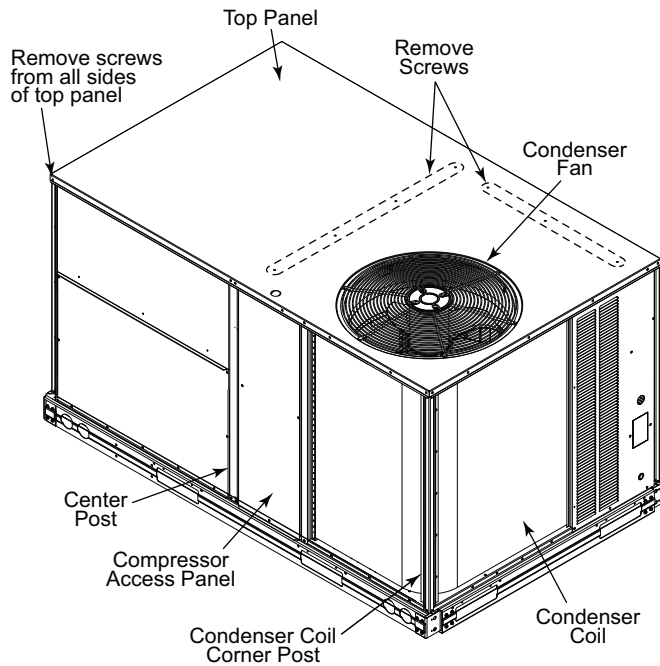

Fig. 18 — Location of Screws and Coil Corner Post
2. Remove all screws from the top panel except the screws securing the condenser fan to the top panel. See Fig. 18.